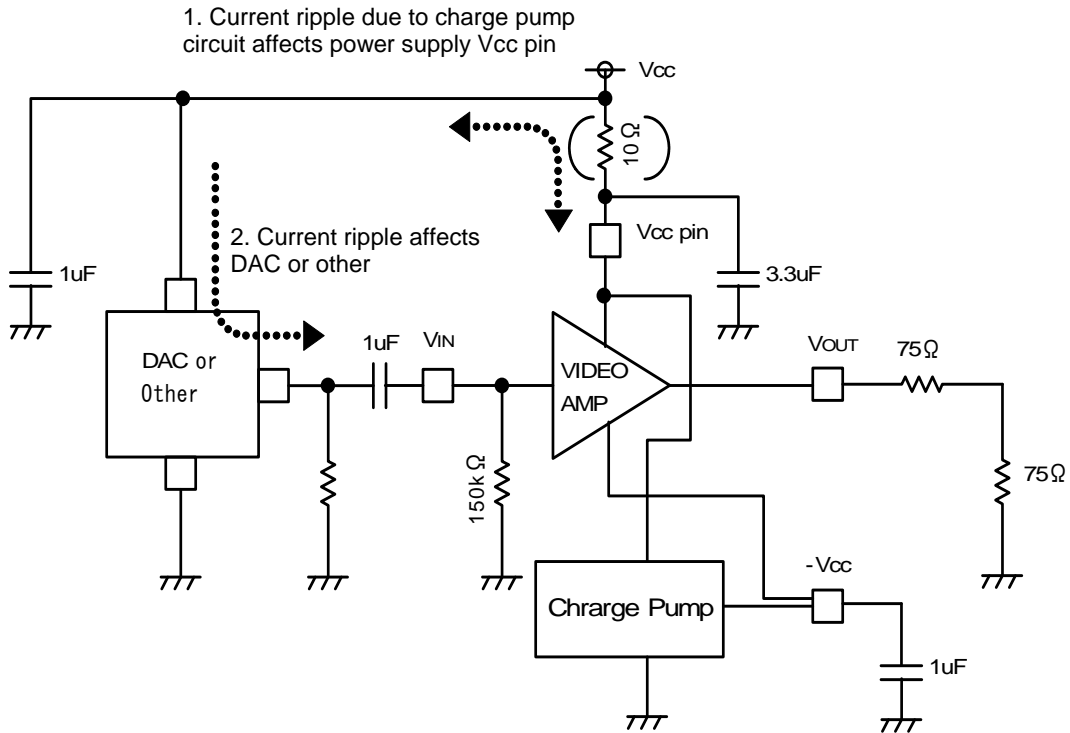

Fig.12 Effects of Charge Pump Circuit Current Ripple on External Circuit
- A large current transition occurs in the power supply pin when the charge pump circuit is switched. If this affects other ICs (via the power supply line), insert a resistor (approximately 10 Ω) in the VCC line to improve the power supply's ripple effects. Although inserting a 10 Ω resistor lowers the voltage by about 0.2 V, this IC has a wide margin for low-voltage operation, so dynamic range problems or other problems should not occur. (See Figures 12 to 14.)